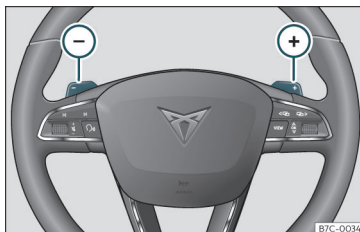

Fig. 199 Steering wheel: automatic gearbox levers
- Press the gearshift paddle to select a higher gear >>> **Fig. 199**.